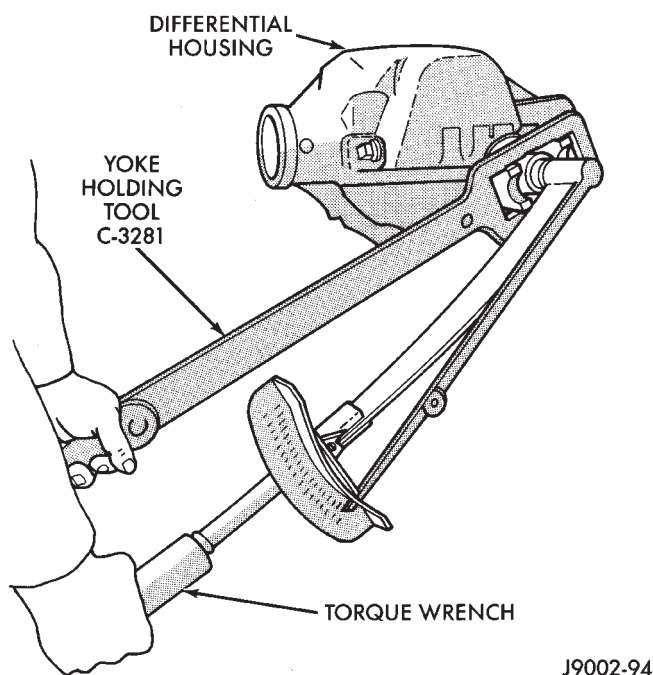

Fig. 5 Tightening Pinion Shaft Nut
(6) Use Flange Wrench C-3281 to retain the yoke and shaft (Fig. 5). Tighten the shaft nut in very small increments.
(7) Continue tightening the shaft nut in small increments until the correct bearing preload torque is attained. Tighten the pinion shaft nut:
(8) Align the installation reference marks and attach the propeller shaft to the yoke.
(9) Add API grade GL 5 hypoid gear lubricant to the differential housing, if necessary.
(10) Lower the vehicle.